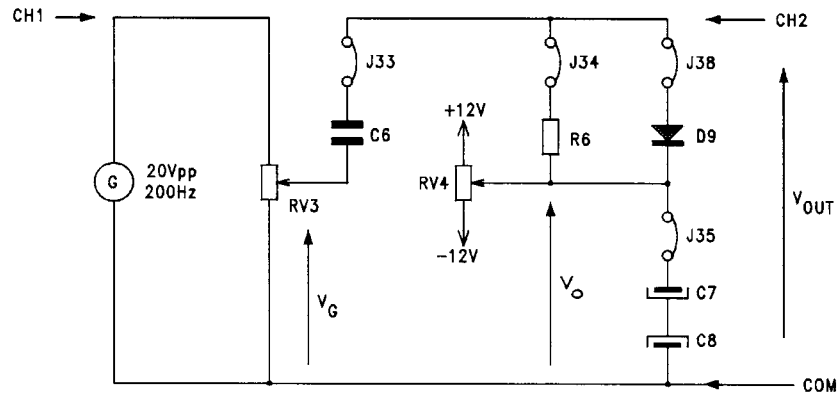

fig. B07.10
- Produce the circuit of figure B07.10 connecting jumpers J33, J34, J35, J38 and connect the oscilloscope to the points marked with CH1, CH2 and COM